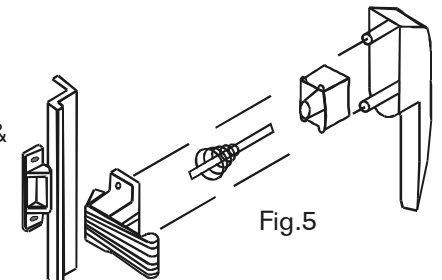
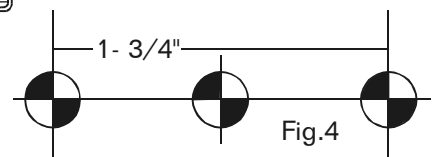

Fig.5
Fig.4
6) Install the hardware, locate the latch where it will not interfere with the door knob, dead-bolt, spreader bar, etc. Using template (fig.4) drill 3 - 1/4" holes thru door frame on the center rib, assemble latch (fig.5) & mount on door. Line up & attach keeper on jamb adjust to firmly engage latch.